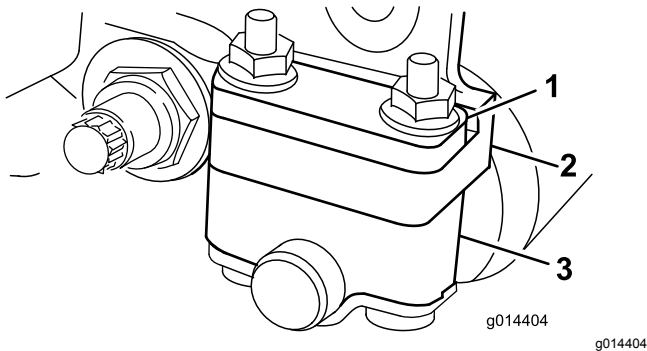
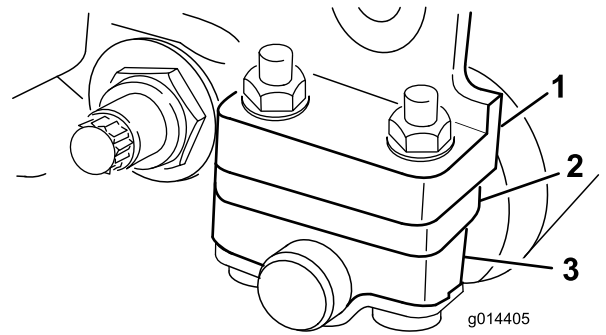

Figure 6
Figure 7
Depending on your desired height-of-cut range, you need to adjust the rear-roller brackets (Figure 6 or Figure 7) to the low or high position:
- Position the spacer above the sideplate-mounting flange (factory setting) when the height-of-cut settings range from 1.5 mm to 6 mm (1/16 inch to 1/4 inch) as shown in Figure 6.
- Position the spacer below the sideplate-mounting flange when the height-of-cut settings range from 3 mm to 25 mm (1/8 inch to 1 inch) as shown in Figure 7.
- Place the spacers onto the bolts above or below the roller brackets, as required (Figure 6 or Figure 7).